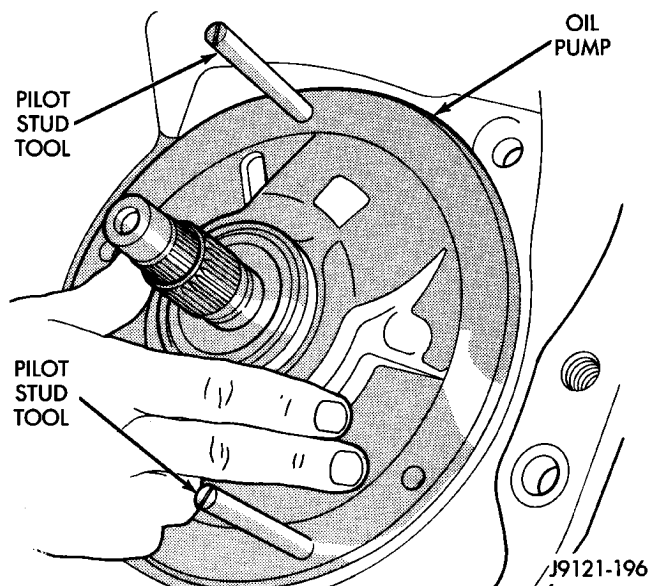
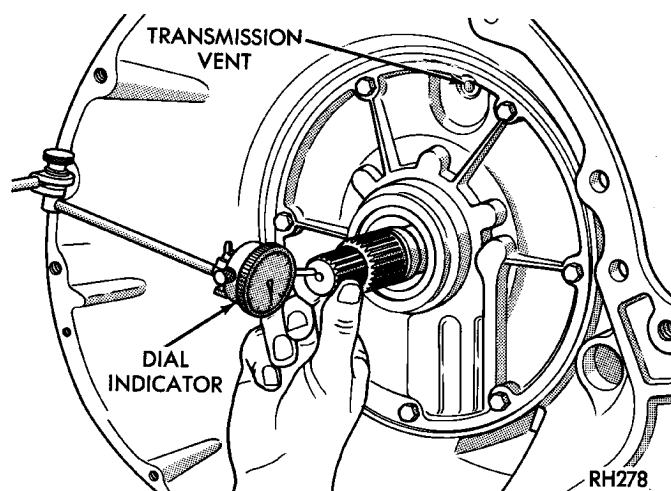

Fig. 125 Installing Oil Pump Assembly In Case
Fig. 126 Measuring Input Shaft End Play
(27) Install oil pump (Fig. 125). Align and position pump on pilot studs. Slide pump down studs and work it into front clutch hub and case by hand. Then install 2 or 3 pump bolts to hold pump in place.
(28) Remove pilot stud tools and install remaining oil pump bolts. Tighten bolts alternately in diagonal pattern to 20 N·m (15 ft. lbs.).
(29) Measure and if necessary, correct input shaft end play as follows (Fig. 126):